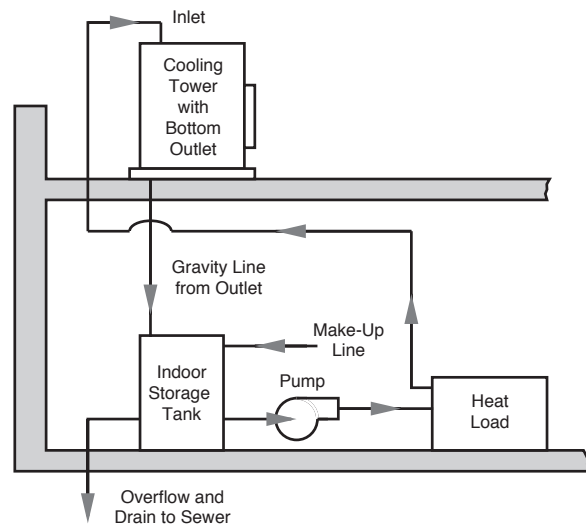

Figure 1
1. If your tower must operate during freezing weather, it is recommended that the tower be installed for gravity flow operation. See **Figure 1**.